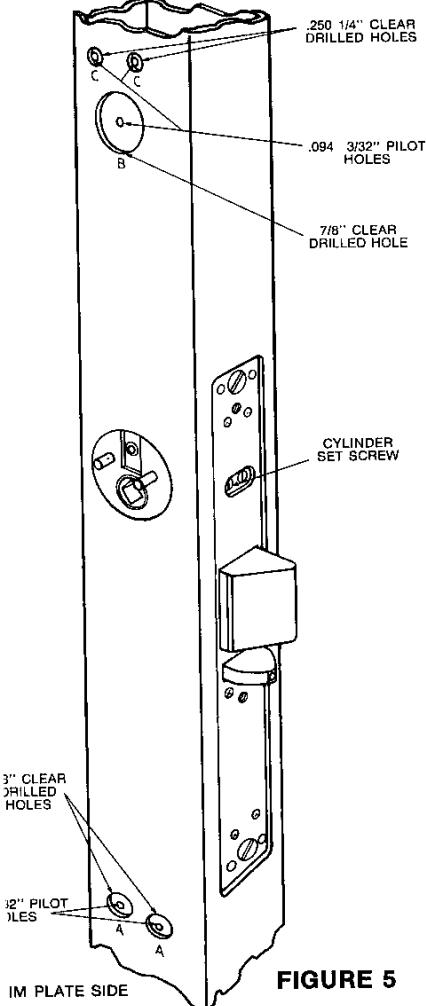

FIGURE 5
Step 12: (Figures 5 and 6)
You are now ready to drill holes marked A, B and C on both sides of stile. Enlarge holes to sizes as follows: (See Fig. 5 and 6) Referencing the hole identification on figures 5 and 6, enlarge 2 holes marked A to a .375 diameter (3/8") drill bit. Enlarge 1 hole marked B to a .875 diameter (7/8") hole saw. Enlarge 2 holes marked C to a .250 diameter (1/4") drill bit. Make sure that all holes are deburred prior to hardware assembly.